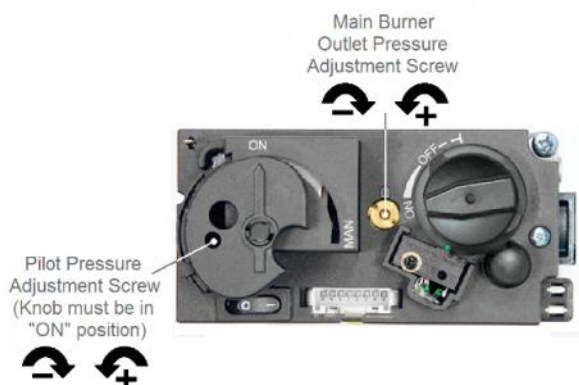

Figure 18 – GV60 Valve Top
1. The adjustment screw can be reached through a hole in the MANUAL knob (see Figure 18).
Convertible regulators are designed to deliver either of two fixed outlet pressures for Natural Gas (NG) or LP Gas. To change from one gas to the other, turn the outlet pressure screw housing (see Figures 18 & 19) counter-clockwise to remove. **Be careful not to engage the small flat slot on the screw itself but use the larger slot of the screw housing to remove the unit.** Unsnap and remove the plastic part, rotate it 180°, and then slide it back on the conversion plug until it snaps. Reinstall the